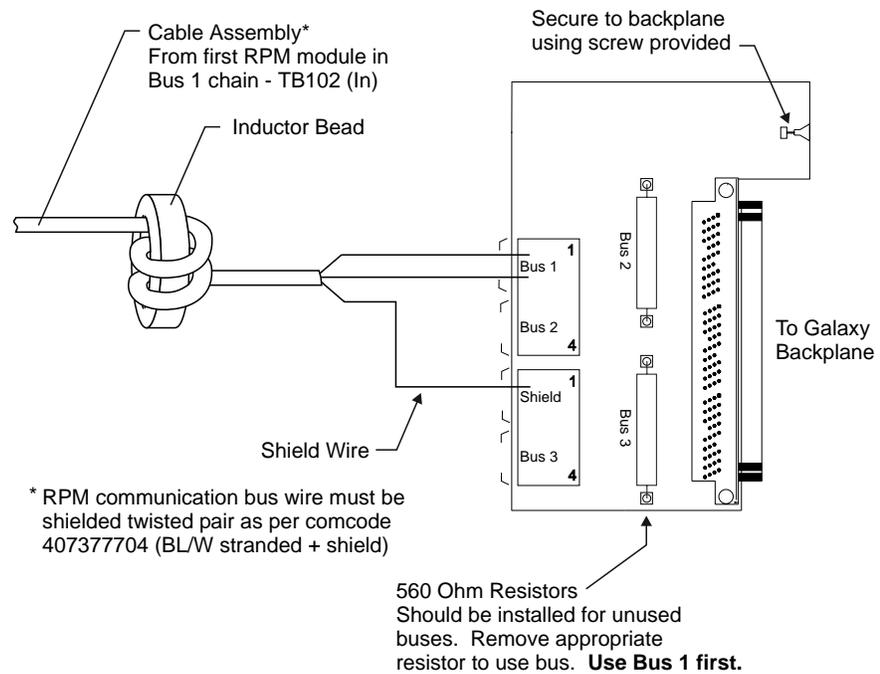

Figure 3-14: Connecting Remote Peripheral Interface Bus Wiring to Galaxy SC Controller
3. Equip the last module in each equipped bus with a Bus Termination Resistor across the X1/X2 terminals in the module. All buses must be terminated by Bus Termination Resistor. If Bus(es) 2 and/or 3 on the Remote Peripheral Monitoring Cable Interface Card is/are not used, mount its/their Bus Termination Resistor(s) on the designated position(s) of the interface card. (Bus 1 on the Remote Peripheral Monitoring Cable Interface Card must always be equipped first.) Refer to Figure 3-14.
5. Wrap each bus wire twice through one of the supplied inductor beads. Place the bead as close to the controller as possible. Connect the bus wiring to the appropriate terminations on the Remote Peripheral Monitoring interface card. Refer to Figure 3-14.